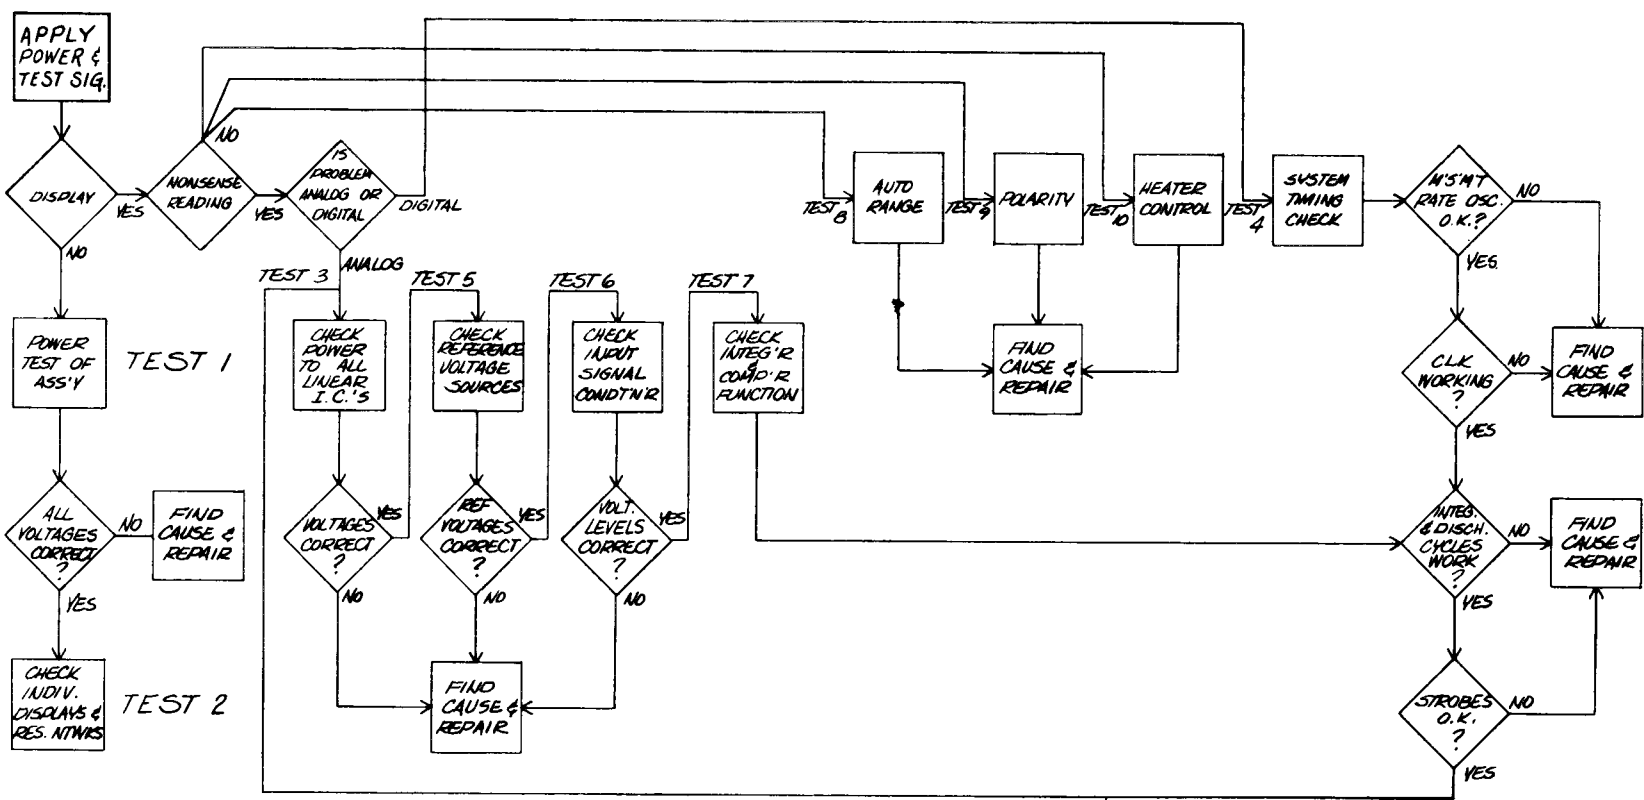

Figure 6 Flow Diagram
The flow diagram (figure 6) and test chart (table 2) are logical troubleshooting guides. Careful observation of the display, dc voltages, and waveforms will expedite isolation of a malfunction to a functional block. At that point, the unit schematic and the flow diagram are required to further localize and identify the cause of malfunction.
**3.4 FLOW DIAGRAM AND TEST CHART** (figure 6 and table 2).